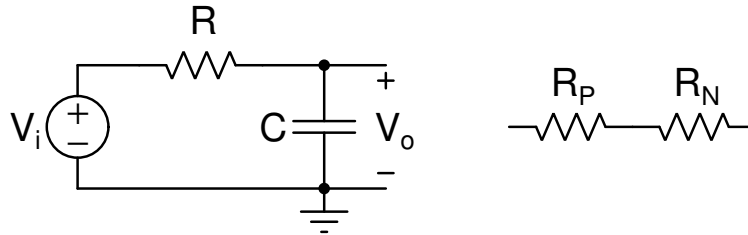

Figure 2.2: Problem 2.2.
2.2. Fig. 2.2 shows a 10 MHz bandwidth RC filter with a 10 pF capacitor. The resistor R is realized as a series combination of R_P and R_N which have a positive and negative temperature coefficients respectively in an attempt to have the bandwidth invariant with temperature. The sheet resistances (at room temperature) and temperature coefficients are as follows: R_P : 100 $\Omega/\text{sq.}$, $+0.001/^\circ\text{C}$; R_N : 150 $\Omega/\text{sq.}$, $-0.002/^\circ\text{C}$